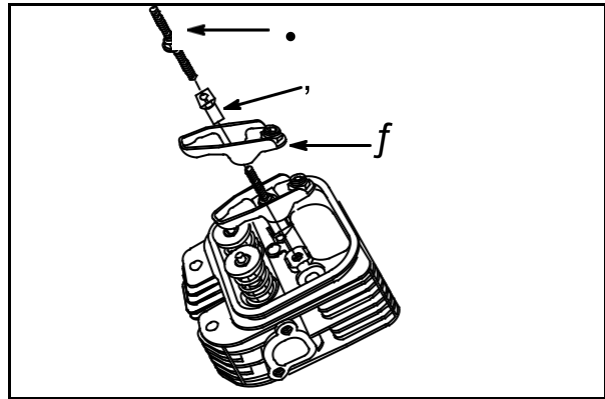

Fig. 11
Assemble rocker studs (1), rocker arm supports and rocker arms (3) to cylinder head, **Fig. 11**.